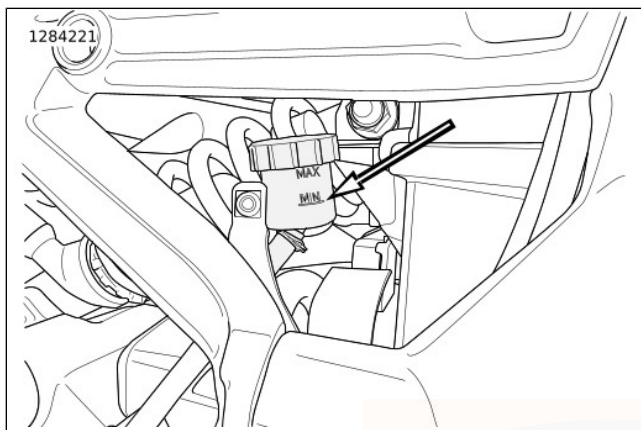

Figure 58. Rear Master Cylinder Reservoir MIN Level
3. **Rear:** See Figure 58. Check level on side of rear brake reservoir. Level must be above MIN.